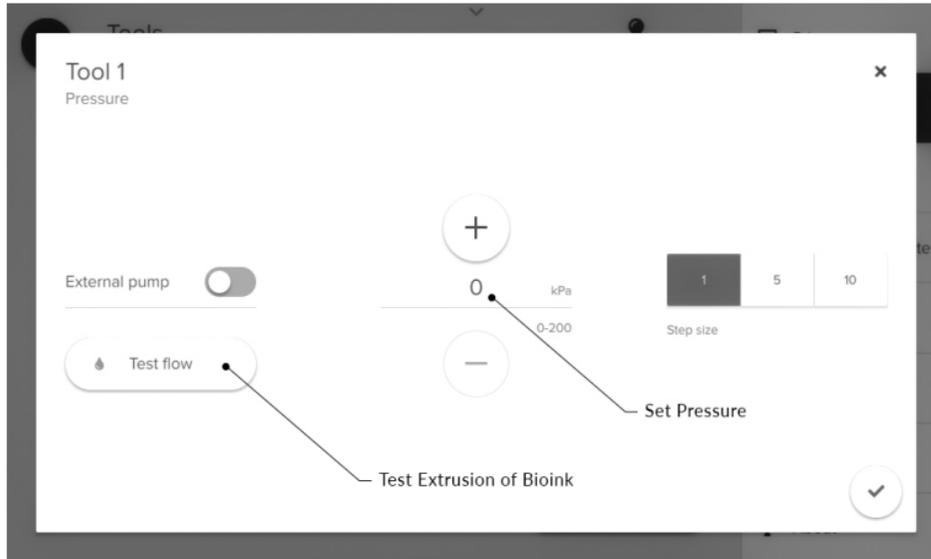

Figure 10: Set pressure and test flow of melted thermoplastic granulate.
8. Wait 15-20 minutes. Test the extrusion of the melted granulate using the Tools submenu (Figure 10).
5. Apply pressure to the printhead to extrude the excess material until only air is expelled (Figure 10).